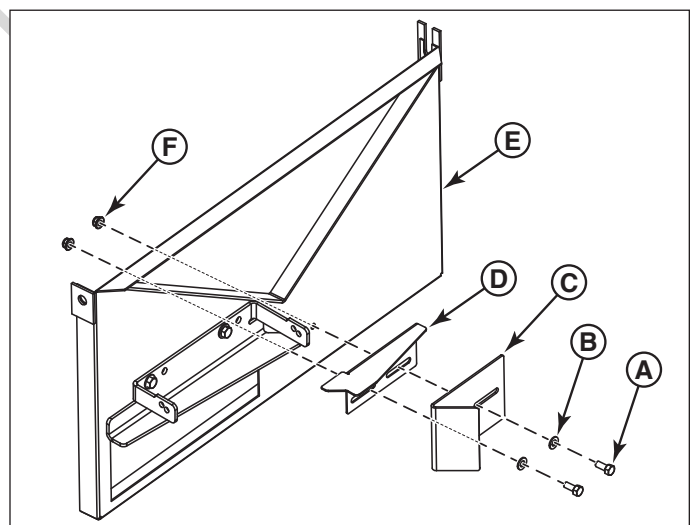

Figure 4. Mounting the Block Off Plates to the Bagger Weldment
1. Loosely install two (2) 5/16" bolts (**A, Figure 4**) with 5/16" washers (**B**) through the block off plate (**C**) and the adjustable blocking plate (**D**) and bagger weldment (**E**). Then secure with two (2) 5/16" nuts (**F**).
1. Loosely install two (2) 5/16" bolts (**A, Figure 4**) with 5/16" washers (**B**) through the block off plate (**C**) and bagger weldment (**E**). Then secure with two (2) 5/16" nuts (**F**).